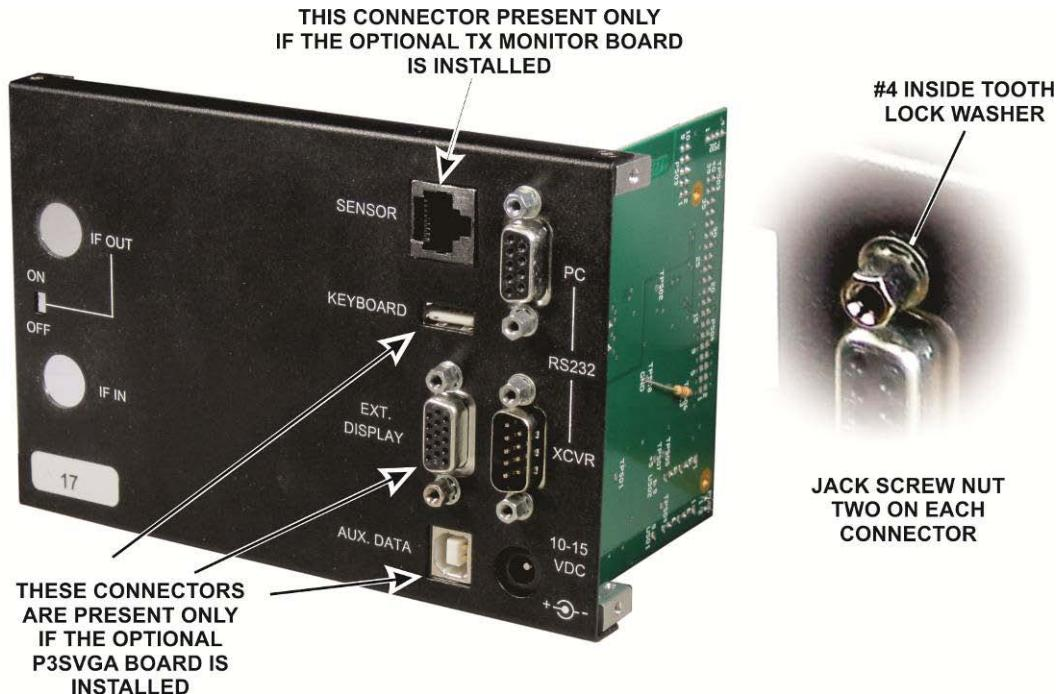

Figure 18. I/O Board Installed.
- Mount the I/O board on the rear panel with the connectors in the RS232 PC and XCVR holes as shown in Figure 18. It is held in place by the jack screw nuts as shown.